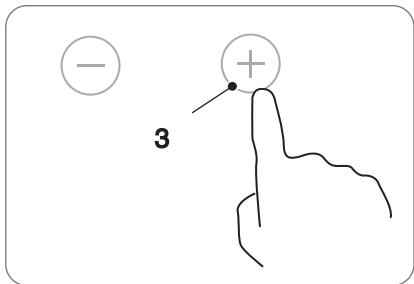

Fig. 4.12
- 1 - Press the selection button with the dual cooking area,  or , set the cooking intensity level to, for example, "6" (see Fig. 4.12) to set the cooking intensity.